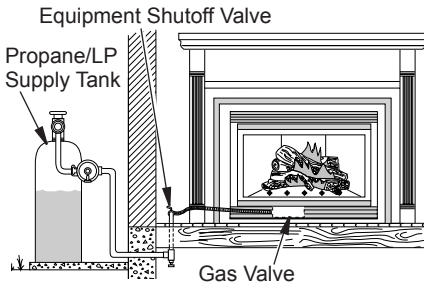
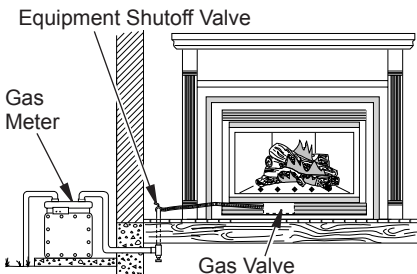

Figure 35 - Checking Gas Joints for Propane/LP Gas Fireplace
Figure 36 - Checking Gas Joints for Natural Gas Fireplace
3. Check all joints from propane/LP supply tank for propane/LP or gas meter for natural gas to equipment shutoff valve (see Figure 35 or Figure 36). Apply noncorrosive leak detection fluid to all joints. Bubbles forming show a leak. Correct all leaks at once.
4. Check all joints from equipment shutoff valve to gas valve (see Figure 35 or Figure 36). Apply noncorrosive leak detection fluid to all joints. Bubbles forming show a leak. Correct all leaks at once.